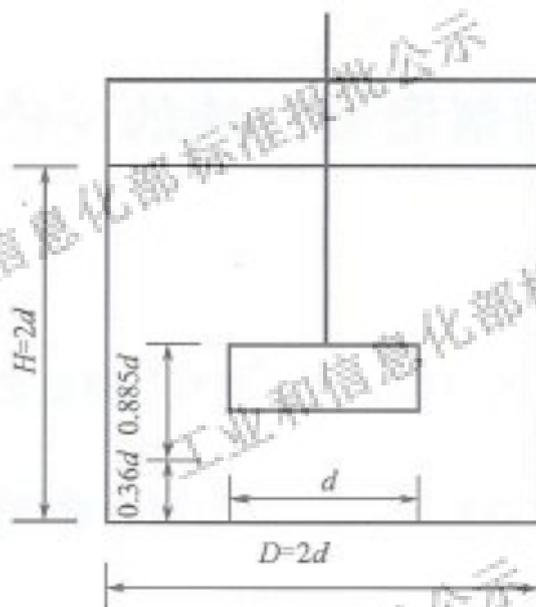

Figure 1 The size and the installation position of the paddle
3.1.3.1.1.2 The size and installation position of paddle is shown in figure 1. The deviation shall not exceed 1.0 mm.